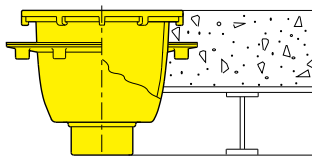
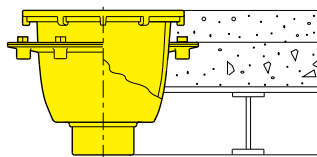

Fig. 2
Fig. 3
- 1) **BODY WITH ANCHORING OR SEEPAGE CONTROL FLANGE** (Fig. 2). This flange rigidly anchors the body in the concrete slab. Body is provided with holes to control the seepage which occurs due to normal separation between the concrete and the SANI-CEPTOR body. Waterproofing membranes are used in many floors on grade. They should always be used in floors located above grade. When a membrane is used, Smith flange and optional flashing clamp (Fig. 3) must be specified. To indicate, add suffix -F-C to the selected figure number.